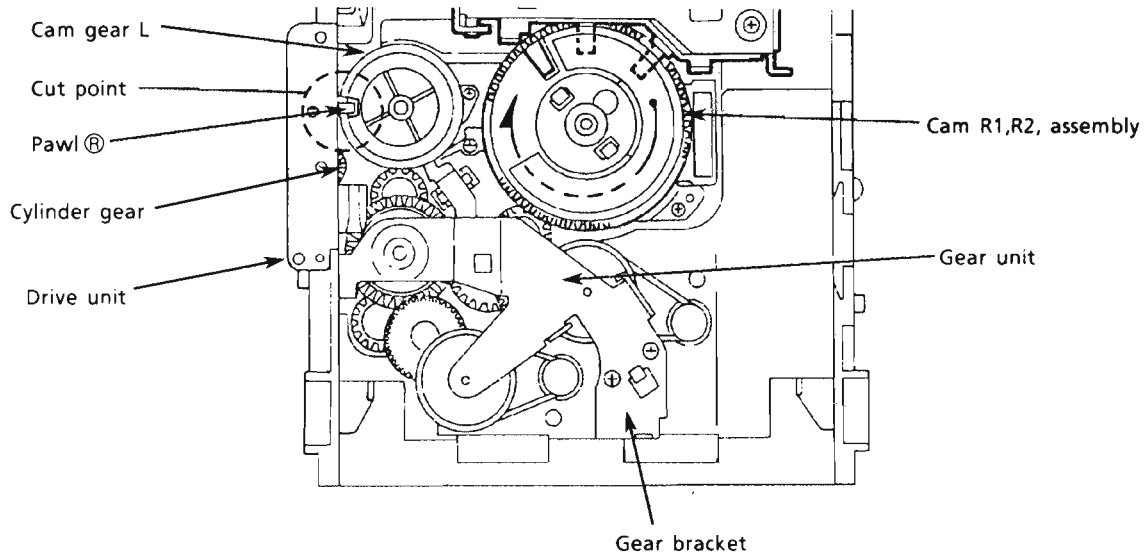

Fig. 49
[NOTE] Set the drive unit's pawl ⑥ so that it is positioned as shown in Fig. 49.